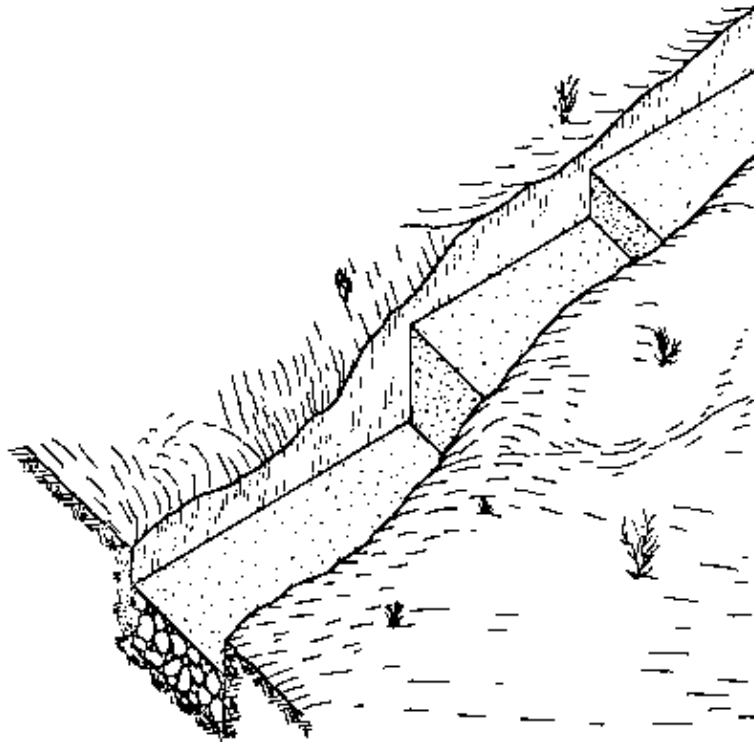

Fig. 4
– STEPPED FOUNDATION: On sloping sites the so-called stepped foundation must be used, which is in fact just a special form of the strip foundation (Fig. 4).